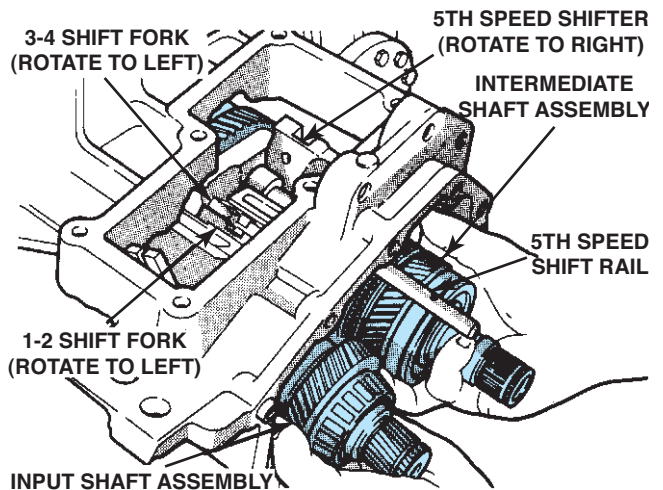

FIGURE 8-22 With the shift linkage disconnected, both shafts with gear assemblies can be removed. (Courtesy of DaimlerChrysler Corporation)
6. Remove the input and mainshaft assemblies together, holding them so that the gears stay in mesh until the shafts leave their bearings (Figure 8-22).